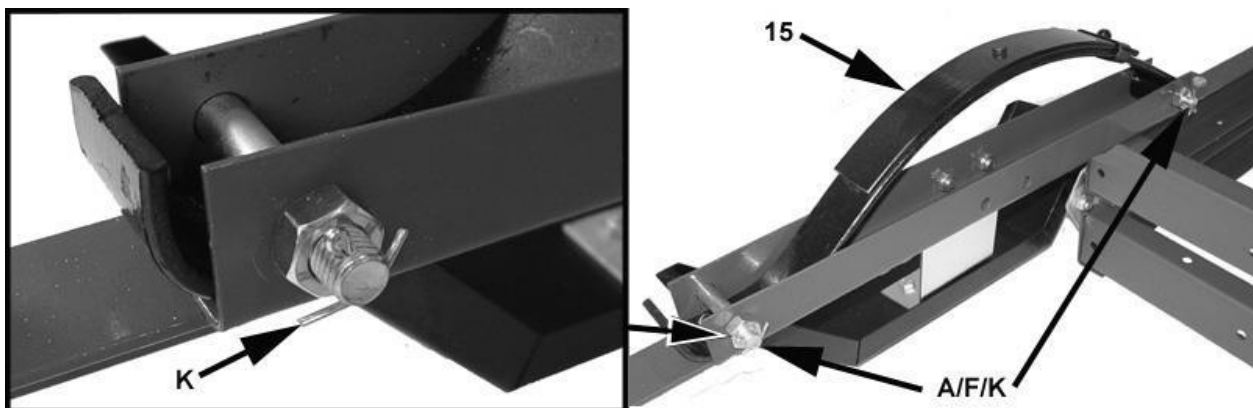

Figure 5-2
4. Place spring (15) into spring hanger with the closed end of spring toward the tow bar end of the trailer.
5. Install M14 x 80 bolts (A), M14 hex nuts (F) and 3mm cotter pins (K). Split cotter pins (K) as shown. See figure 5-2.